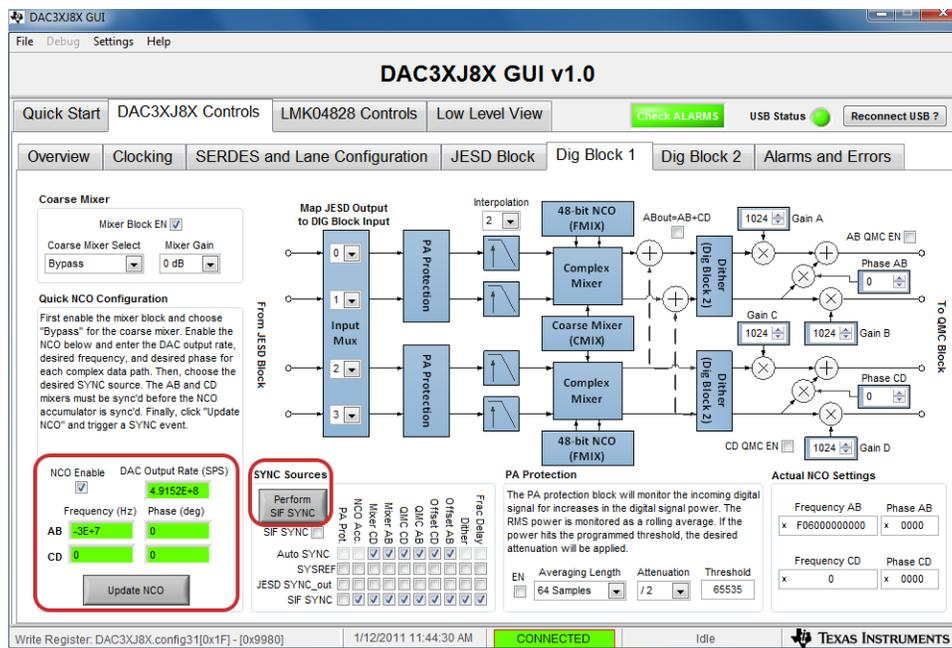

Figure 11. DAC38J8x GUI Course Mixer Setting
10. Under the tab *DAC3XJ8X Controls/ Dig Block 1*, press the *Perform SIF Synch* button, as shown in Figure 11.
Figure 11 shows the DAC38J8x GUI course mixer setting.
5. If you want to shift the signal, by -30 MHz for example, set the AB value of -3E07 as shown in Figure 11.